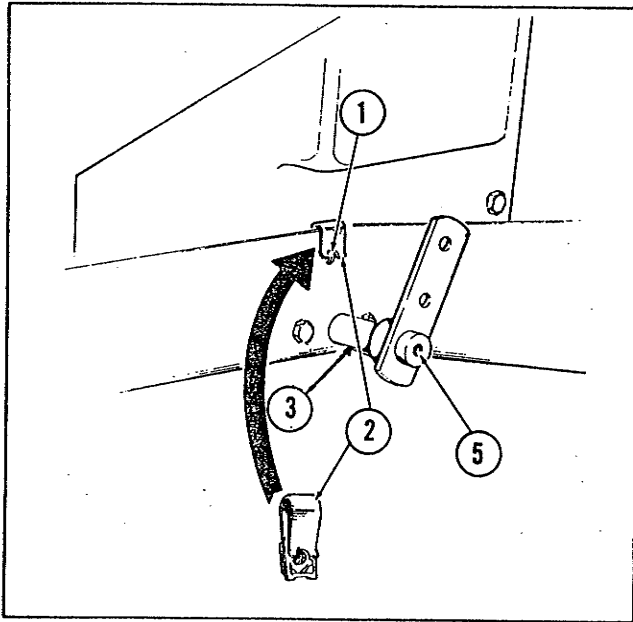

Figure 1.
1. On right side of tractor frame, locate mounting hole, (1, Figure 1) above lift lever shaft and at upper edge of tractor frame. With nut on inner surface of frame, align nut retainer (2, Figure 1) with mounting hole.
2. Remove two capscrews, (3, Figure 1) from each side of lift lever shaft and, using removed capscrews, mount quadrant assembly (4, Figure 2) to side of tractor frame. Insert a capscrew (4, Figure 3) and lockwasher (19) into upper mounting hole of quadrant and tighten into nut retainer installed in step 1.
3. Try capscrews (21 and 24, Figure 3) in lift lever mounting hole (5, Figure 1).